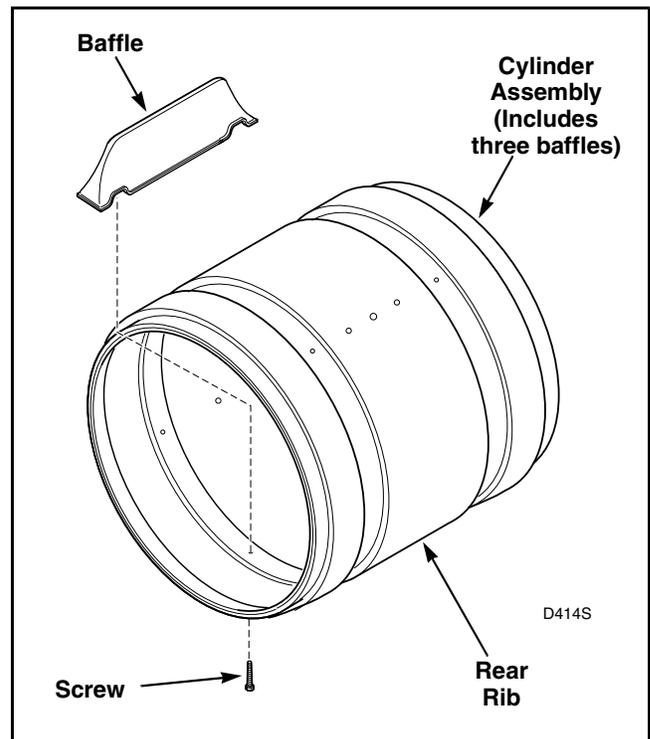

Figure 35
NOTE: When reinstalling belt, be sure belt is properly installed on motor and idler pulleys, and is on the correct side of the idler lever. Refer to *Figure 26*. Belt must be positioned around center section of cylinder approximately three inches ahead of rear rib on cylinder. Refer to *Figure 35*. After installing belt, manually rotate cylinder counterclockwise to check that belt is properly aligned.
NOTE: When reinstalling belt, be sure belt is properly installed on motor and idler pulleys, and is on the correct side of the idler lever. Refer to *Figure 26*. Belt must be positioned around center section of cylinder approximately three inches ahead of rear rib on cylinder, with the ribbed surface of the belt against the cylinder. Refer to *Figure 35*. After installing belt, manually rotate cylinder counterclockwise to check that belt is properly aligned.
- i. Baffles – Remove screws holding baffles to cylinder. Refer to *Figure 35*.
NOTE: When reinstalling belt, be sure belt is properly installed on motor and idler pulleys and is on the correct side of the idler pulleys. Refer to *Figure 26*. Belt must be positioned around center section of cylinder approximately three inches ahead of rear rib on cylinder with the ribbed surface of the belt against cylinder. Refer to *Figure 35*. After installing belt, manually rotate cylinder counterclockwise to check that belt is properly aligned.
NOTE: When reinstalling belt, be sure belt is properly installed on motor and idler pulleys and is on the correct side of the idler pulleys. Refer to *Figure 26*. Belt must be positioned around cylinder approximately three inches ahead of rear rib on cylinder with the ribbed surface of the belt against the cylinder. Refer to *Figure 35*. After installing belt, manually rotate cylinder counterclockwise to check that belt is properly aligned.